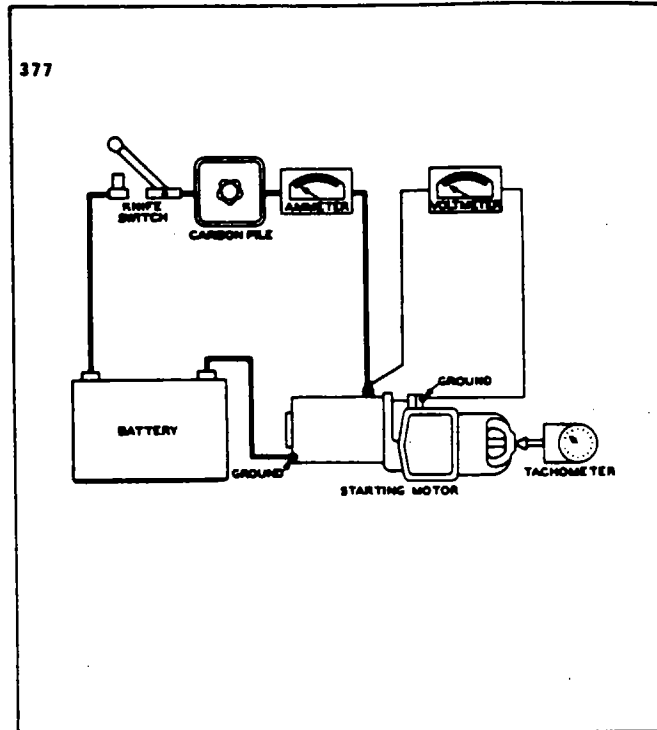

Figure 11-27. No-Load Test Hook-Up
a. After the starting motor is reassembled, it should be tested to see that the no-load current at a certain voltage is within specifications as given in paragraph 11-46. To make this test, connect as shown in Figure 11-27. If current is too high, check the bearing alignment and end play to make sure there is no binding or interference. Two or three sharp raps on the frame with a rawhide hammer will often help to align the bearings and free the armature.